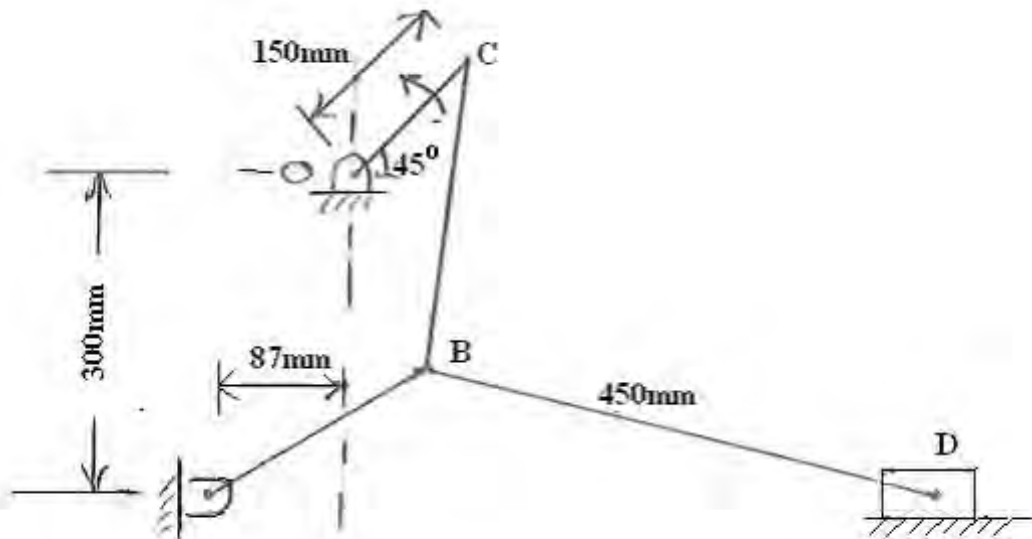

Figure 2
- In the mechanism shown figure 2 D is constrained to move on a horizontal path. Find, for the given configuration, the velocity and acceleration of D and the angular velocity and acceleration of BD when OC is rotating in a counter-clockwise direction at a speed of 180 r.p.m., increasing at the rate of 50 rad/s^2 . [16]